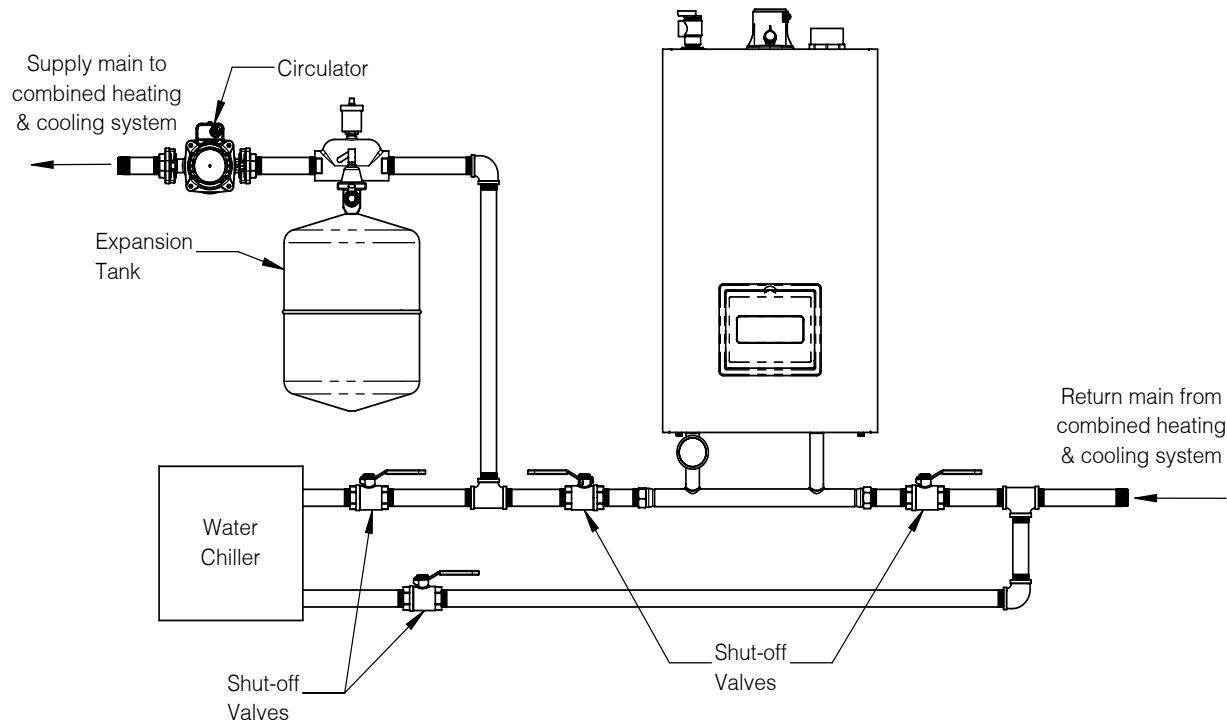

Figure A-1: Isolated Boiler from Refrigeration System
1. If boiler is used in connection with refrigeration systems, boiler must be installed with chilled medium piped in parallel with the heating boiler using appropriate valves to prevent chilled medium from entering boiler. See Figure A-1. Also consult Residential Hydronic Heating Installation and Design I=B=R Guide.